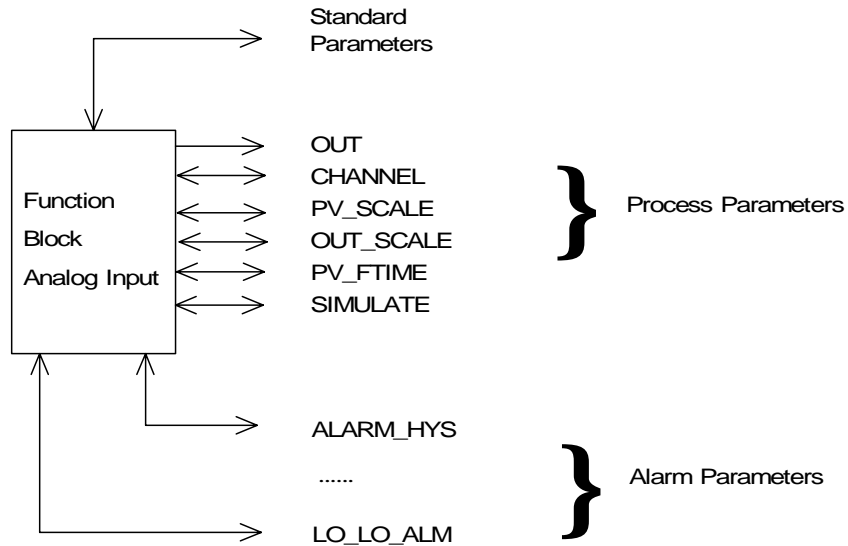

Figure 2.3-1 Summary of the parameter of Analog Input Function Block
The Analog Input (AI) Function Block (FB) represents transmitters. The parameters are shown in Figure 2.3-1.